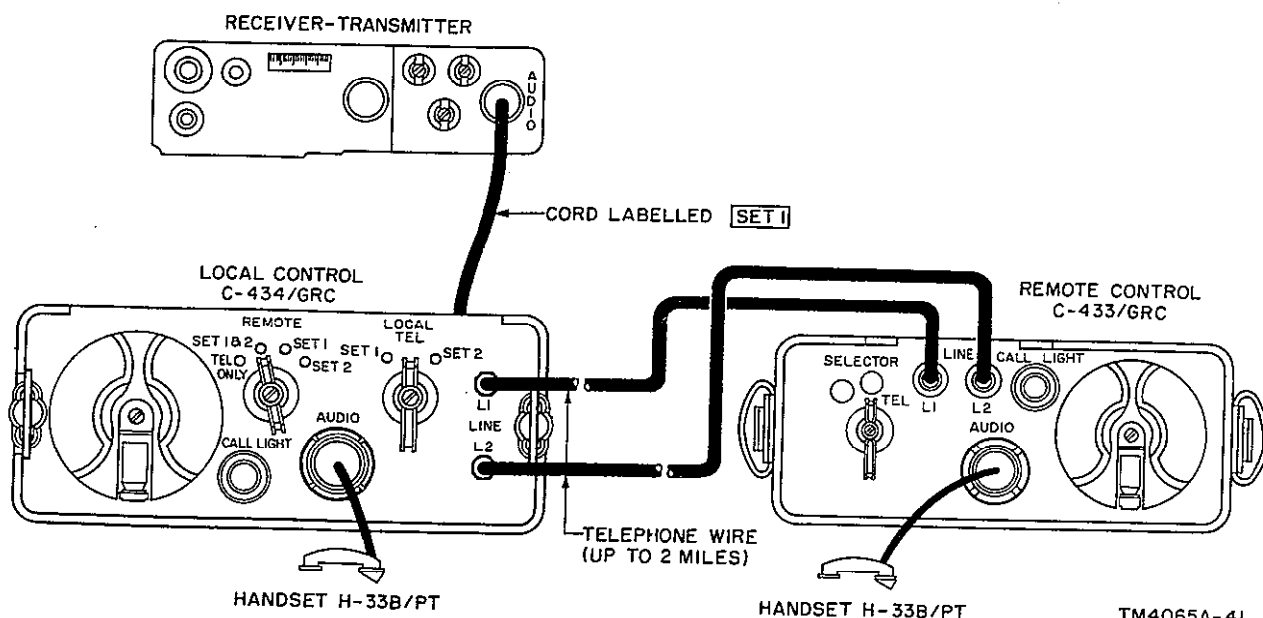

Figure 22. Connections to Control Group AN/GRA-6.
- (1) In the REMOTE position of the POWER switch, all four voltage supplies are connected to AUDIO jack J8J instead of to ground. Power can now be applied to the set only when jack J8J is connected to ground. This connection is made through a relay circuit in remote Control Group AN/GRA-6, which connects terminal J to grounded terminal B. Remote Control Group AN/GRA-6 includes Local Control C-434/GRC and Remote Control C-433/GRC as two of its basic components (fig. 22).
- (2) The SET 1 cable of Local Control C-434/GRC is plugged into AUDIO jack
J8 of the radio receiver-transmitter. Remote Control C-433/GRC is connected to the local control unit by a two-wire telephone line whose maximum length may be 2 miles (fig. 22). On the local control unit, the LOCAL switch is set at TEL and the REMOTE switch is set at SET 1. On the remote control unit, the SELECTOR switch is set to the left write-in position and the push-to-talk button on the handset is pressed and then released. With the above settings on the local control unit, jack J8J in the radio set is grounded through a relay circuit in the local control unit and power is applied to the receiver section of the radio set.